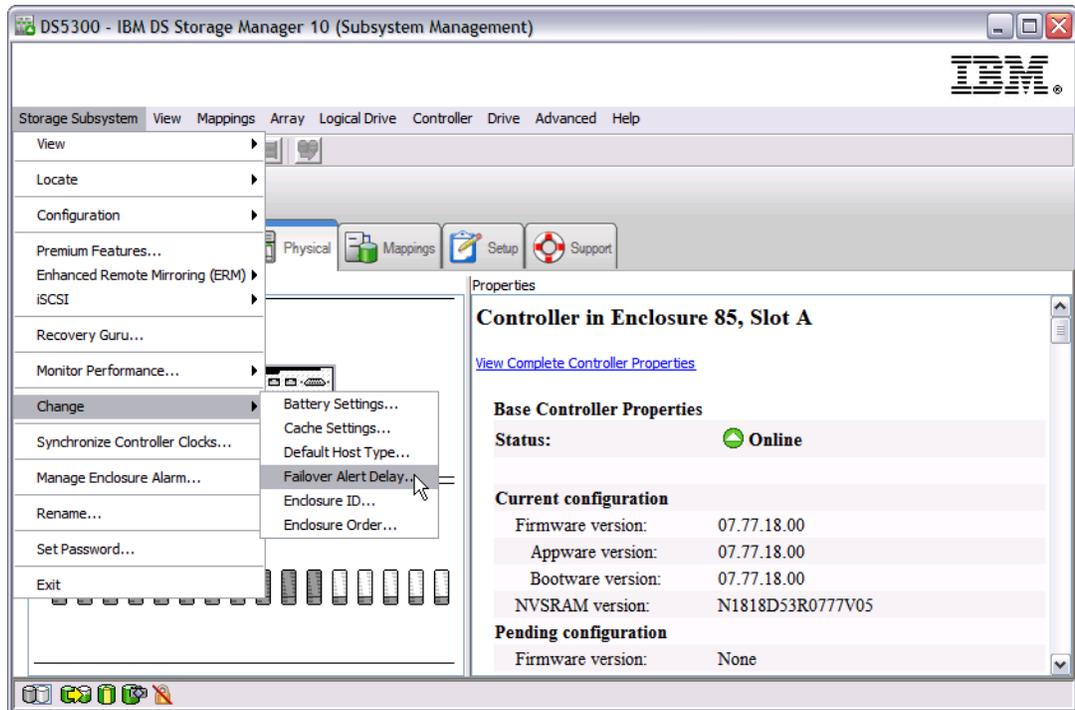

Figure 3-50 Changing the failover alert delay
1. Select the storage subsystem from the Subsystem Management window, and then select either the **Storage Subsystem** → **Change** → **Failover Alert Delay** menu option, or right-click and select **Change** → **Failover Alert Delay**. See Figure 3-50.